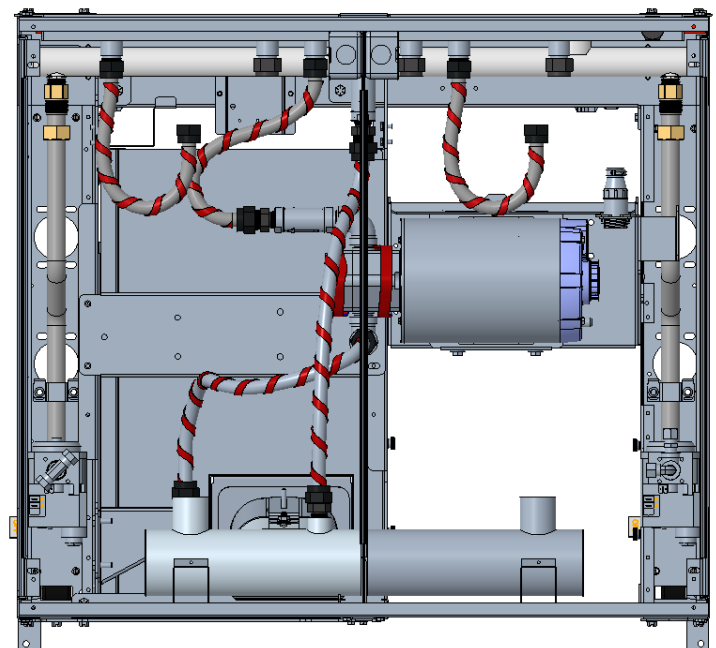

Fig 8
8. Wrap all the flex lines and the filter pump using foil tape to retain tightly around oil line. While it may not be shown well in illustration, **ALL** check valves and return valve bodies must also be covered in heater strips (Figures 8 & 9).